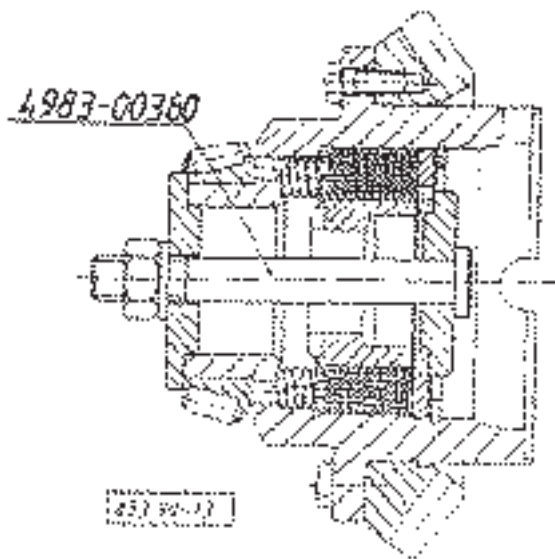

Fig. 1.:
By means of the device shown, pull the disks together to bottom out securing the spring force and remove the snap ring (47). (**Fig. 1.**).